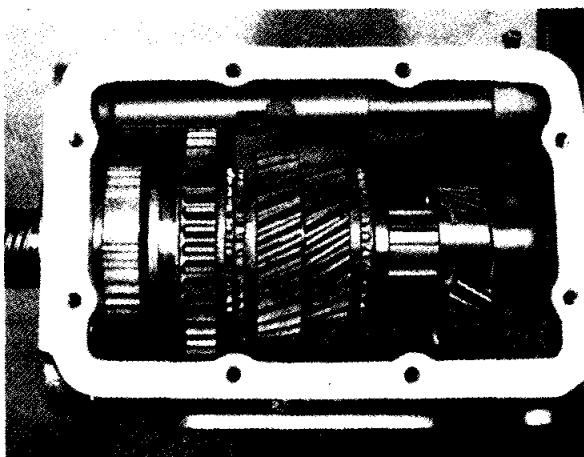

Fig. 21 Fitting Mainshaft Circlip with Churchill Tool No. 20SM. 46.
- (v) New mainshaft circlip as shown in Fig. 21.